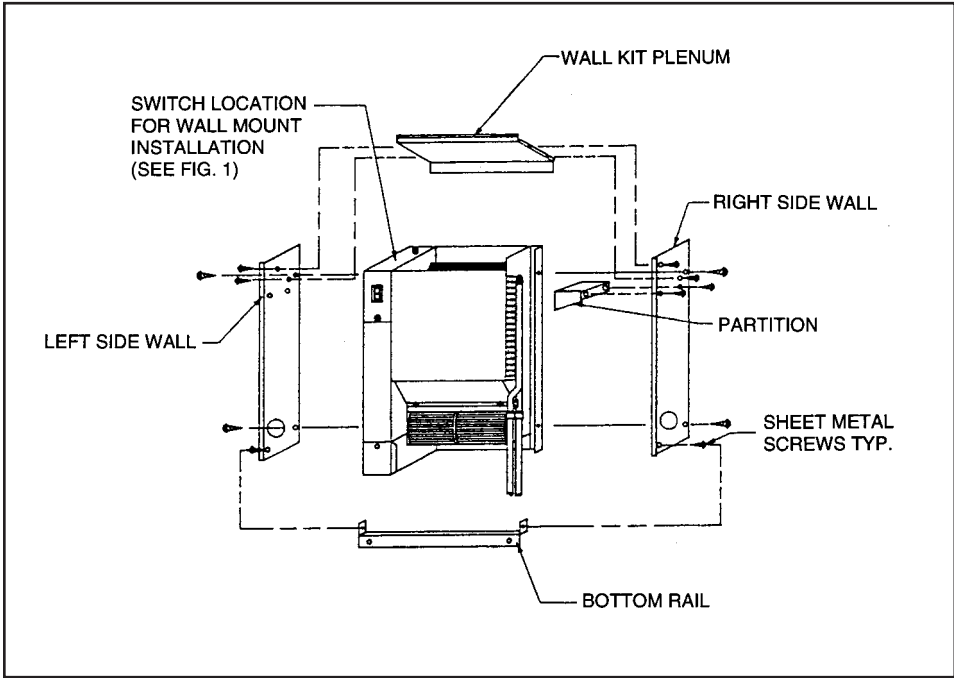

Figure 3. Frame assembly
3. Attach both side panels (flange facing outward) to the base of The Kicker panels (flange facing outward) to the base of The Kicker with (4) #8 x 1/4" screws provided. See Fig. 3.
4. Attach bottom rail, plenum and partition to each side with (8) #8 x 1/4" sheet metal screws provided. See Fig. 3.